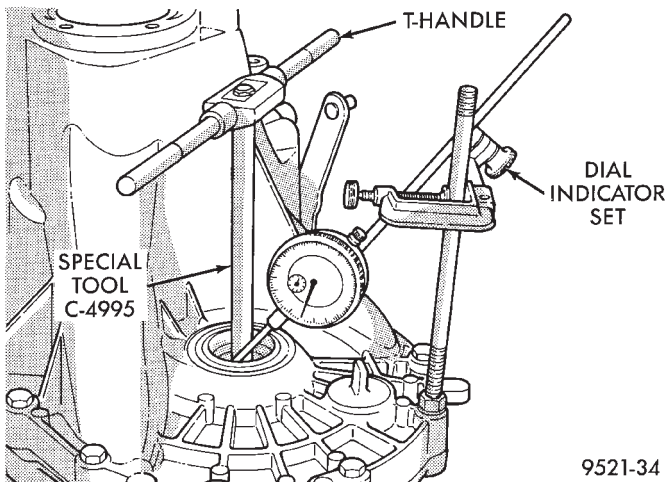

Fig. 85 Checking Differential Bearing End Play To Determine Shim Thickness
- (1) Remove bearing cup and existing shim from clutch bellhousing case.
- (2) Press in new bearing cup into bellhousing case (or use a cup that has been ground down on the outer edge for ease of measurement).
- (3) Press in new bearing cup into gear case side.
- (4) Oil differential bearings with Mopar® type M.S. 9417 Manual Transaxle Fluid. Install differential assembly in transaxle gear case. Install clutch bellhousing over gear case. Install and torque case bolts to 29 N·m (21 ft. lbs.).
- (5) Position transaxle with bellhousing facing down on workbench with C-clamps. Position dial indicator.
- (6) Apply a medium load to differential with Tool C-4995 and a T-handle, in the downward direction. Roll differential assembly back and forth a number of times. This will settle the bearings. Zero the dial indicator. To obtain end play readings, apply a medium load in an upward direction while rolling differential assembly back and forth (Fig. 85). Record end play.